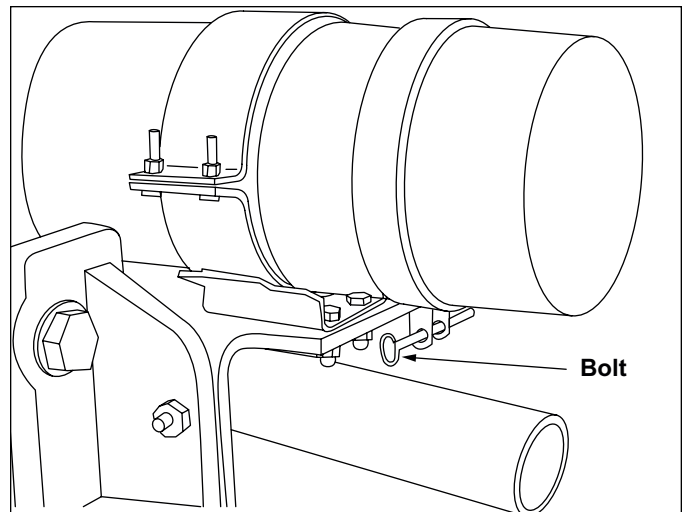

Figure 4-4. Engine Air Filter
2. Loosen the air cleaner cover bolt (Figure 4-4) to remove the air cleaner cover and gasket.